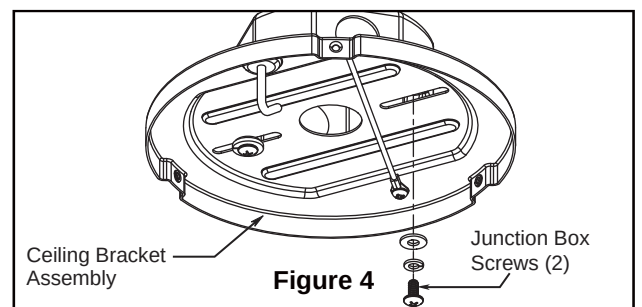

Figure 4
- ☐ 3. Using the ceiling junction box screws and washer provided with the ceiling junction box, securely attach the ceiling bracket to the ceiling junction box as shown. (Figure 4)